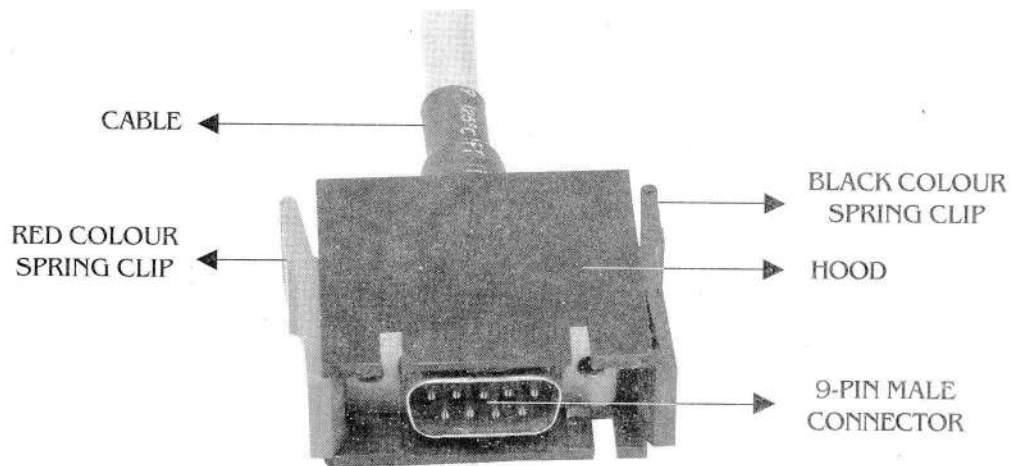

FIG. 4 Interconnecting cable with connector
11. The interconnecting cable is a protected round cable, one end of which is permanently attached to the Ballot Unit. To its other end is attached the connector with a hood (Fig. 4) for connecting it to the Control Unit. One side of BU cable spring clip is in **RED** colour. Also one side of the female socket in rear side compartment of CU is in **RED** colour for easy identification at the time of insertion.